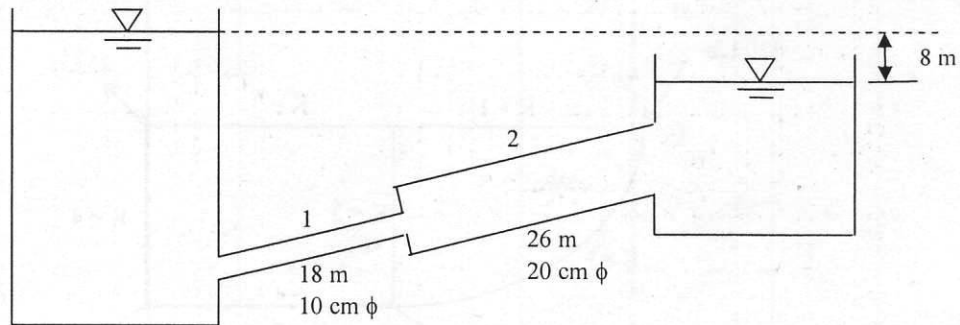

Figure 9
6.(a) Two reservoirs with a difference in water surface elevation of 8 m are connected by a pipeline which consists of two pipes 1 and 2 joined in series as shown in Figure 9. Pipe 1 is 10 cm in diameter, 18 m long and has a value of friction factor $f = 0.02$. Pipe 2 is of 20 cm diameter, 26 m long and has an $f = 0.018$. The junctions with the reservoirs and between the pipes are abrupt. Include all the minor losses. Calculate discharge. (8)